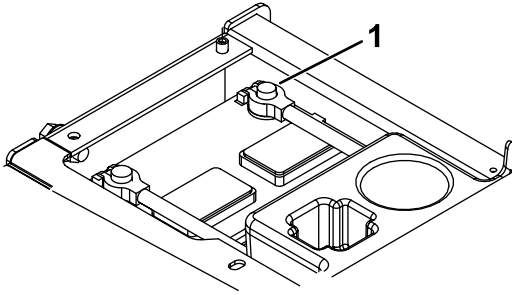

Figure 8
11. Remove and discard the existing negative (-) battery cable clamp bolt (Figure 8).